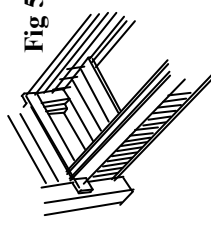

Fig 5
10. Fit the slats evenly into the bottom of the box and nail in place as Fig 5. Two slat supports are supplied to support the slats and need to be fitted on the underside of the floor.